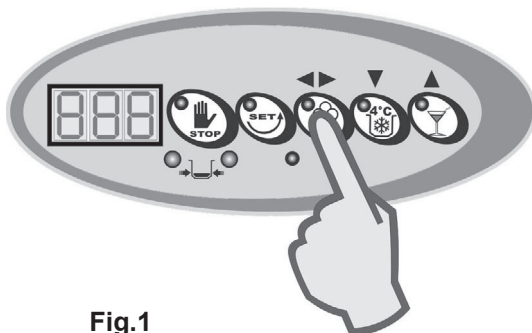

Fig.1
- Lower the tank's lid and press the PRODUCTION key to start the production of soft ice cream (fig.1) or press the CREATIVE FUNCTION key to start the production of frozen yogurts, sorbets, fruit and cream parfaits, mousses, etc.. (fig.2).